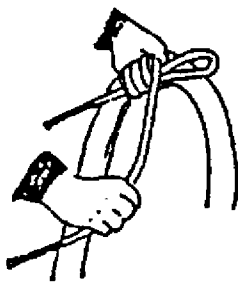

Fig. 3-56-4
- d. Over the folded rope, wrap the other end of rope several times tightly according to the length of the coiled rope. (Fig. 3-56-4)